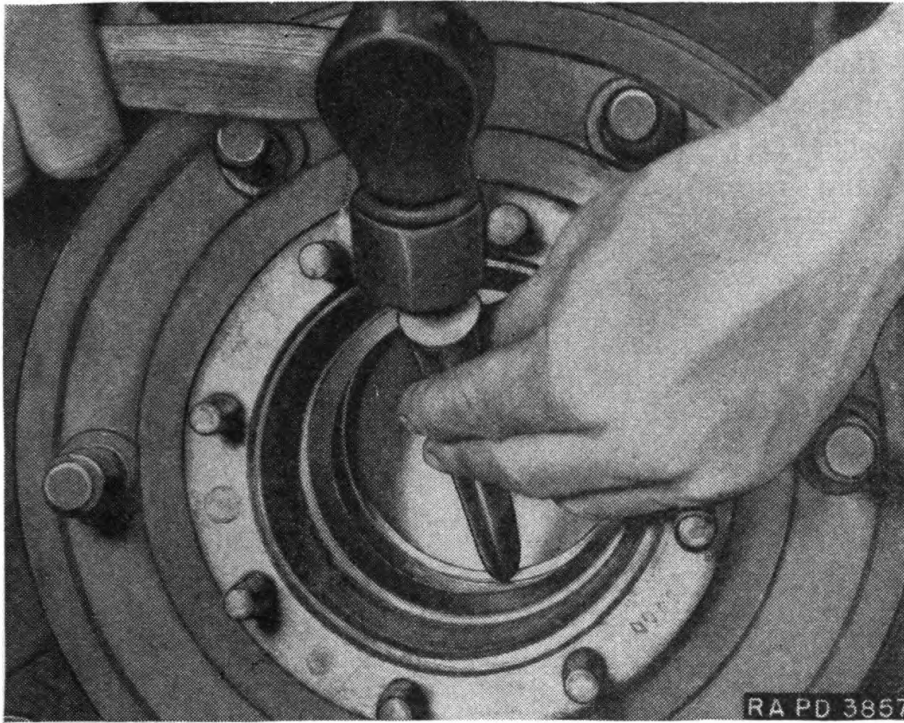

FIGURE 14.—Front axle wheel bearing inner cup removal.
(7) Remove wheel bearing cups—hammer, brass drift (or puller). Knock bearing cups out of drum with a hammer and brass drift (figs. 14 and 15), or remove cups with a puller.